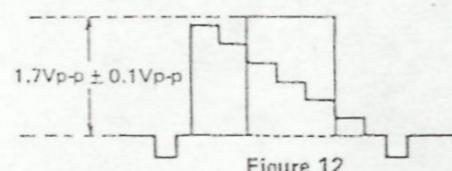

Figure 12
4. Adjust the SUB-CONT control (R303) to obtain 1.7 V p-p \pm 0.1 Vp-p from the white level to pedestal level. (See figure 12.)